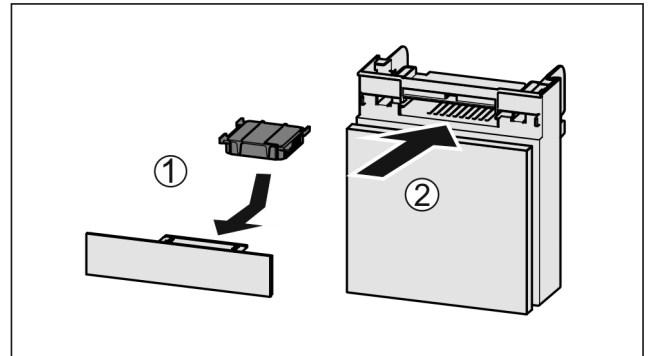

Fig. 181
- ▶ Insert the carbon filter as shown in the diagram Fig. 181 (1).
- ▶ Push the compartment in Fig. 181 (2).